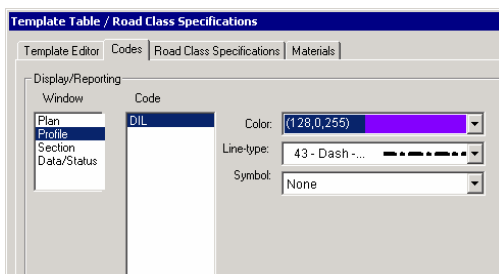

Figure 5.29: Template Editor Typical Views
9. Click on the Codes button. Select the Profile window. Press the *Add* button and choose “DIL” (Ditch Inside Left) and press Add. Choose a distinct line type to display the ditch in the profile window as shown in Figure 5.29.